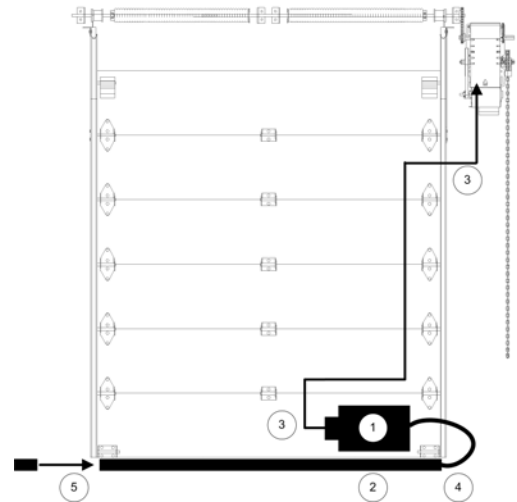

Figure 20 - Reversing Edge
1. Place the air switch in position, refer to Figure 20.
1. Place the junction box in position, refer to Figure 20.